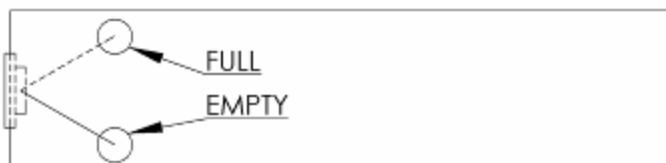

Fig. 9-4
- (b) Set position and length of the fuel level sender lever according to Fig. 9-4.